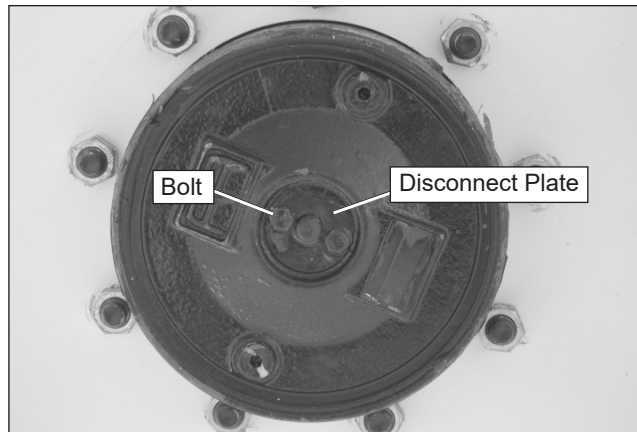

Figure 9.3 – Drive Wheel
6. At each drive wheel, remove the two bolts from the disconnect plate (refer to Figure 9.3). Turn the plate over so the nipple points inward. Reinstall the two bolts.
8. At each drive wheel, remove the two bolts and return the plate to its original position as shown in Figure 9.3.